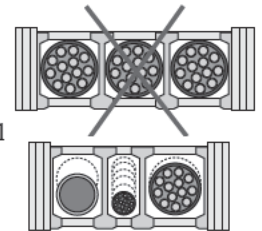

Figure 7
3. Arrange cables/hoses in the PowerTrak so as to allow adequate movement. The largest cable or hose in the trak should have 20% clearance of the trak height and the total of all cables/hoses should have 20% clearance of the trak width (Fig. 7).